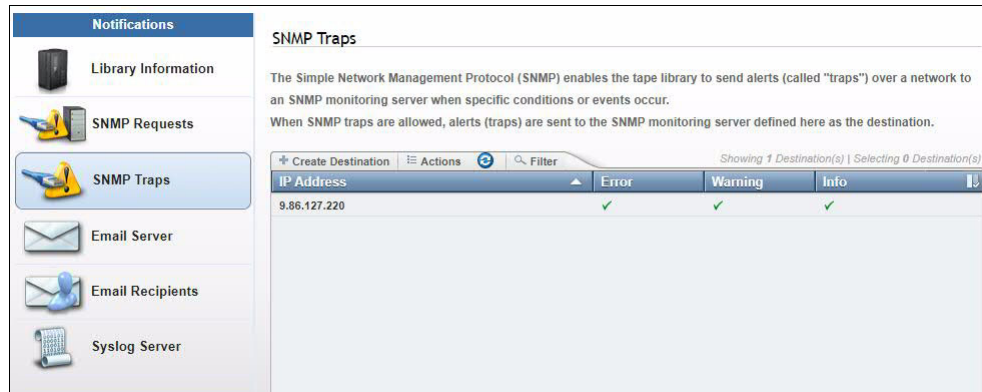

Figure 4-28 SNMP Traps window
1. From the SNMP Destinations window, select the **Create Destination** tab to display the Add Destination window, as shown in Figure 4-28 on page 219.